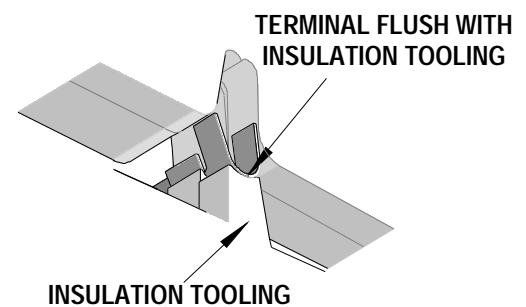

Figure 3A
2. Position the terminal in the proper profile; partially close the hand tool until the terminal is held in place. The terminal should be positioned so that the front of the insulation grips is flush with the front face of the insulation tooling. See Figure 3A.